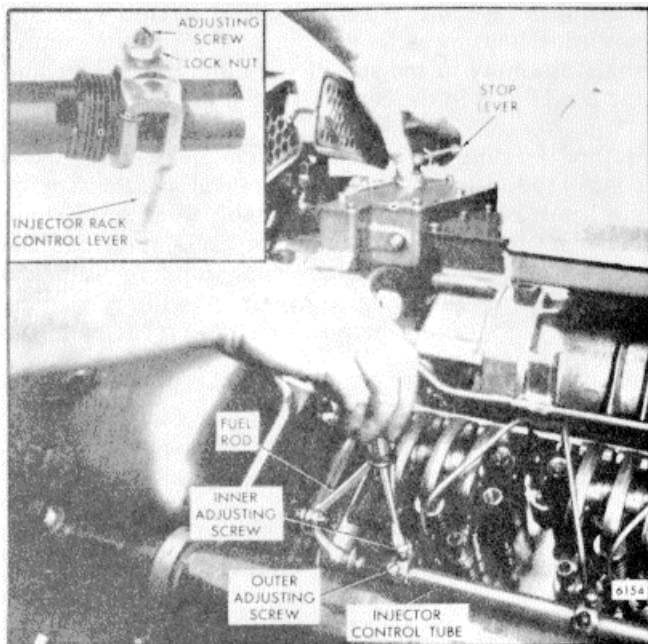

Fig. 11. - Positioning No. 4R Injector Rack Control Lever
4. Move the stop lever to the run position and hold it in that position with a light finger pressure (Fig. 11). Tighten the adjusting screw of the No. 4R injector rack control lever until the injector rack clevis is observed to roll up or an increase in effort to turn the screwdriver is noted. Tighten the screw approximately 1/8 of a turn more and lock securely with the adjusting screw locknut. This will place the No. 4R injector rack in the full-fuel position.